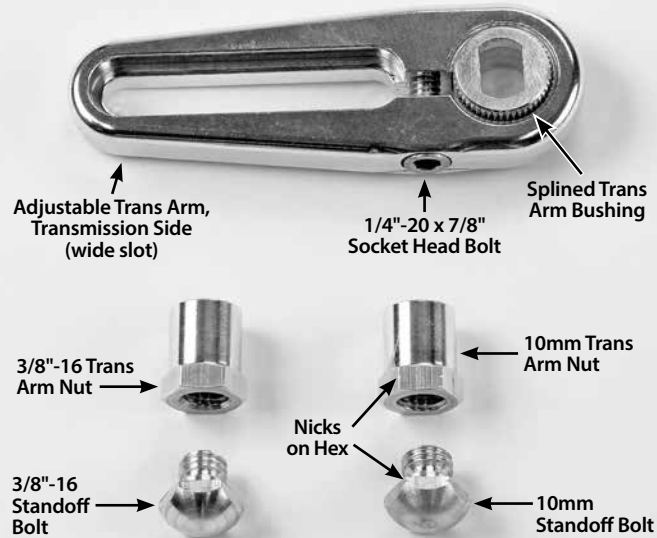
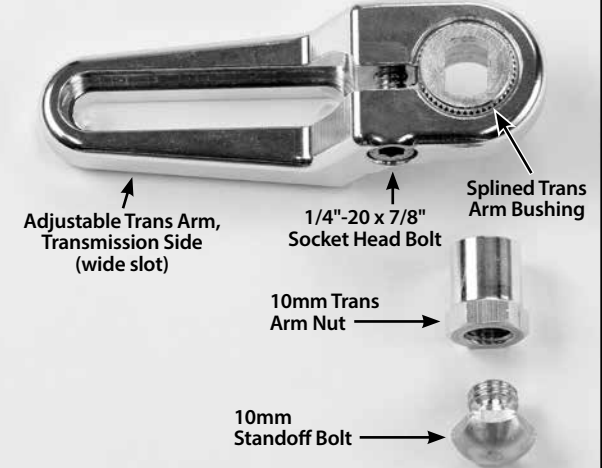

Fig. 1
Fig. 2
Refer to Fig. 1 and Fig. 2 for the names of the components.
Step 3: Install the adjustable trans arm onto the splined trans arm bushing with the wide slot on the side towards the transmission and the narrow slot on the side away from the transmission. **Figs. 1, 2, 3** and **4** The positioning varies per application. Adjust the position of the adjustable trans arm as needed in order to get the transmission into all gears. Once you get the adjustable trans arm positioned properly, use a 3/16" Allen wrench to tighten the 1/4"-20 x 7/8" socket head bolt to clamp the adjustable trans arm to the splined trans arm bushing.